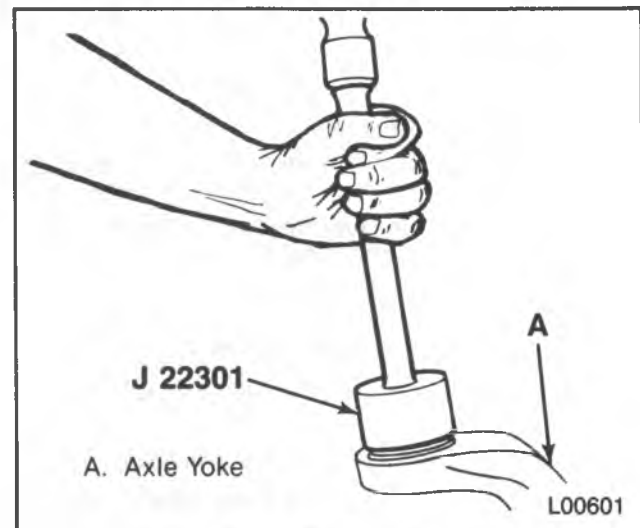

Figure 66 — Installing the Seal
3. Bearing (283) and NEW seal (284) using J 22301 (figure 66).